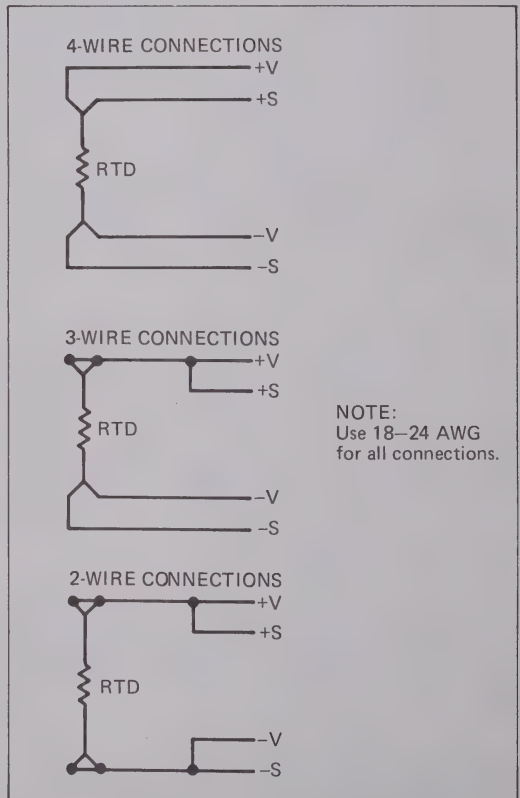
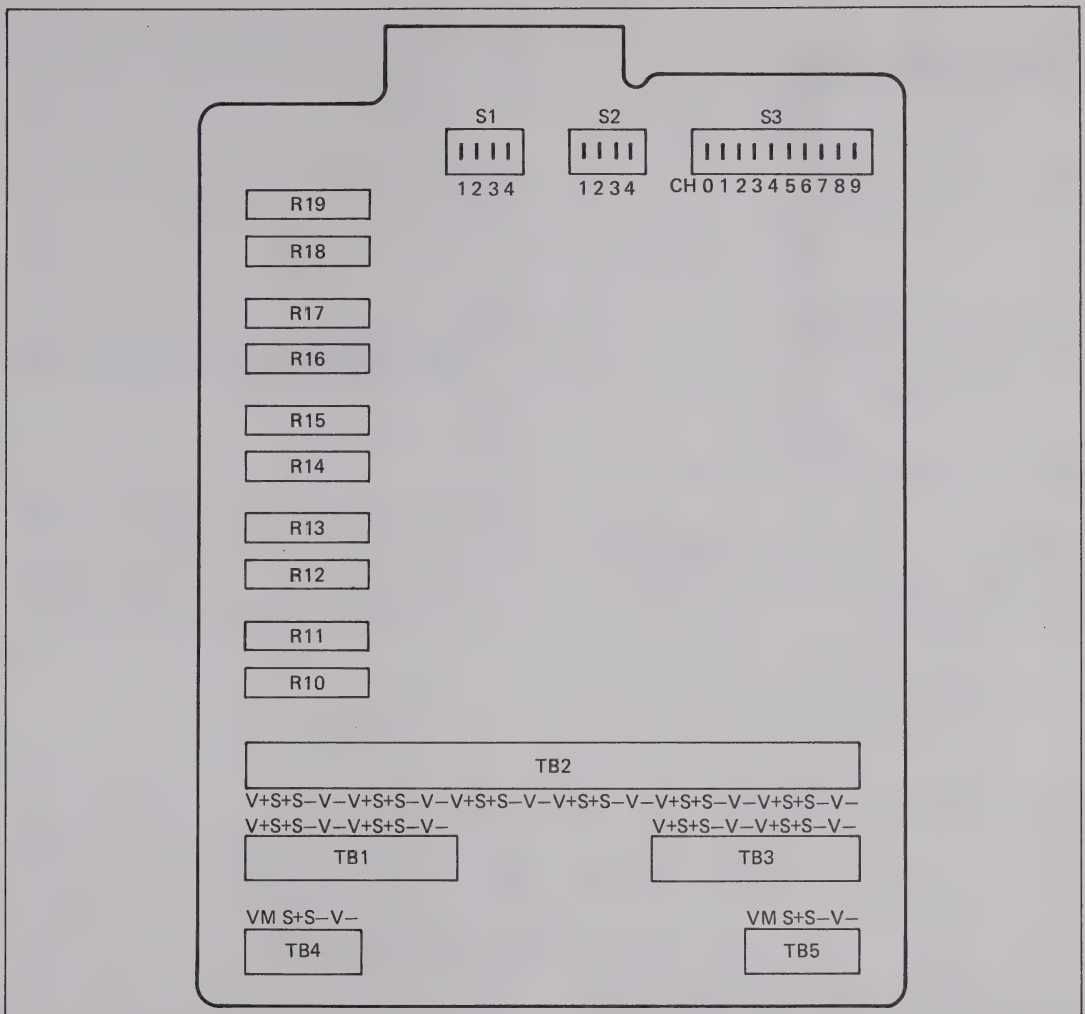

Figure 603-1. RTD Connections
Figure 603-2. RTD Connections
- c. Connect the input wires to the screw-terminal connections. (Refer to Figure 603-1 and Figure 603-2.)